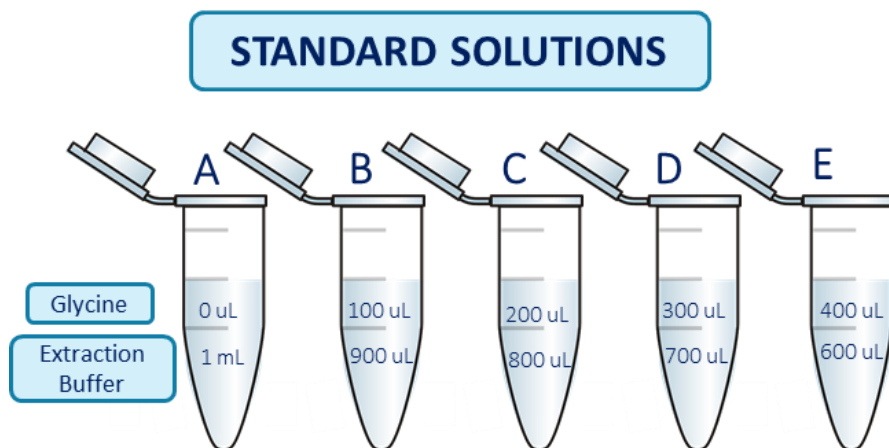

Figure 14. Graphic representation of standard solutions. Each Eppendorf tube has a different concentration of glycine with a known amount of free amino groups.
5) Prepare the standards for the standard curve as it is given in the *Figure 14*: